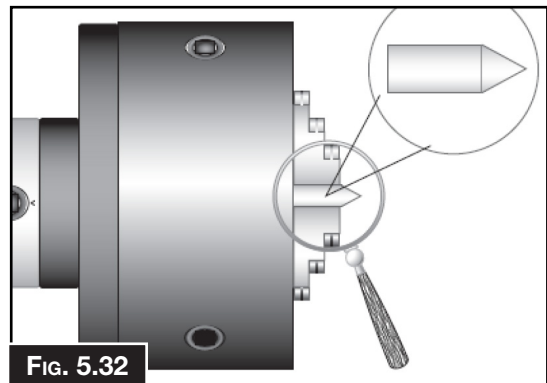

Fig. 5.32
2. Make a dead centre by turning a shoulder to make a shank. Flip the piece over in the chuck and turn a 60° point (Fig. 5.32). As long as it remains in the chuck, the point of your center will be accurate to the spindle axis.